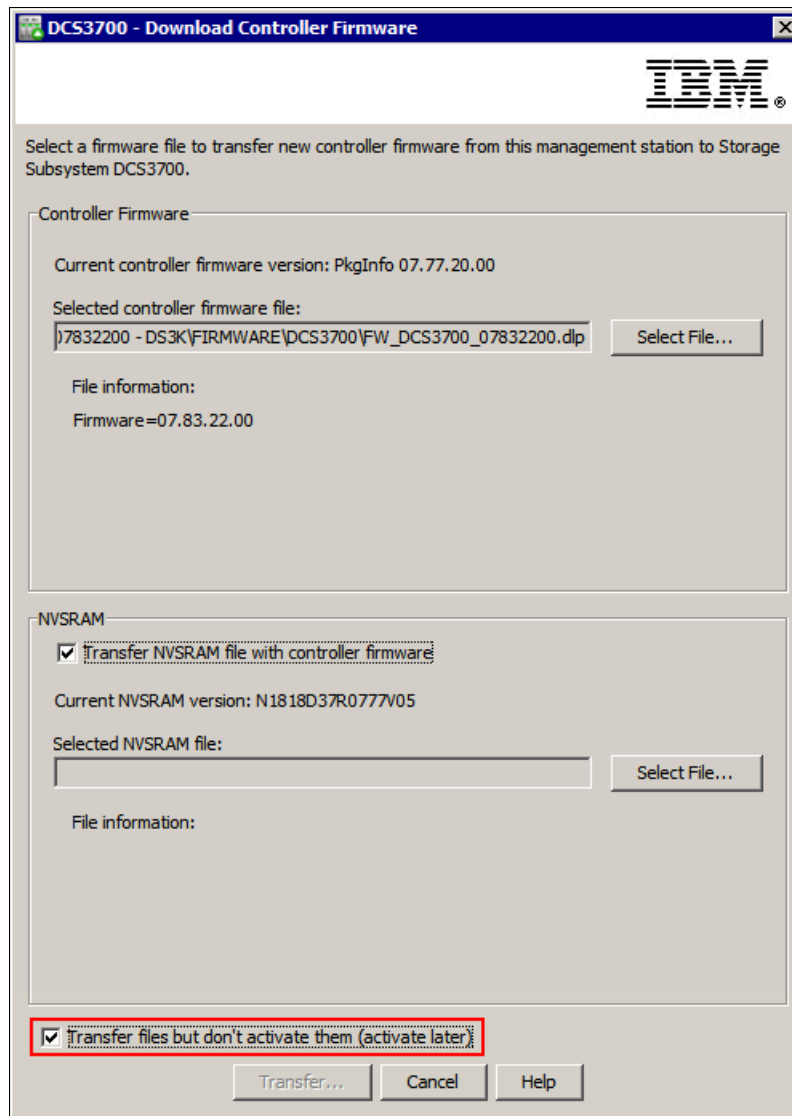

Figure 14-34 Download Controller Firmware with NVSRAM firmware
6. To update the NVSRAM in the same step, select the **Transfer NVSRAM file with controller firmware** check box and browse to the NVSRAM file (Figure 14-34).
**Note:** It is a preferred practice to transfer files but not activate them in one step, as shown in Figure 14-34.